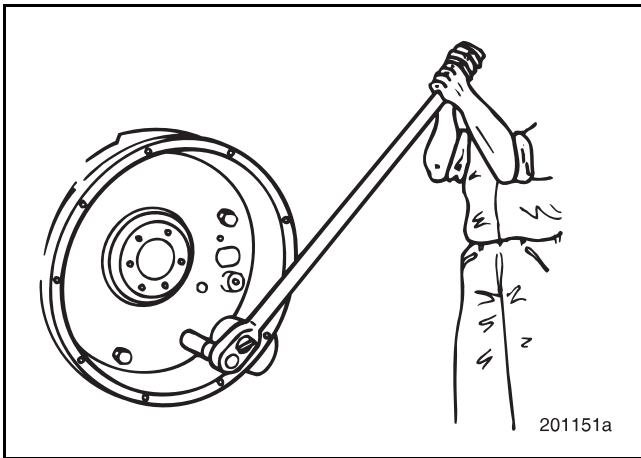

Figure 6-30 — Torquing Flywheel Housing Capscrews
7. Torque all flywheel housing capscrews to 170 lb-ft (231 N•m) using torque wrench J 24407 or equivalent. Refer to Figure 6-30.